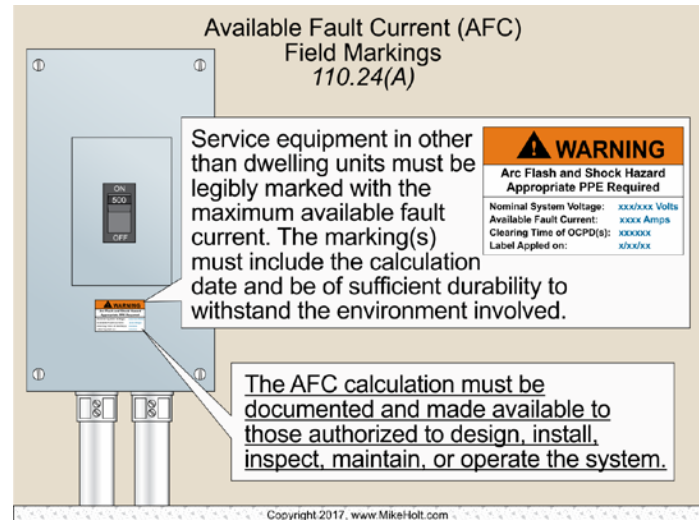

Figure 110–27
(A) Field Marking. Service equipment, in other than dwelling units, must be field marked with the maximum available fault current, the date the fault current calculation was performed, and be of sufficient durability to withstand the environment involved. The available fault current calculation for the service equipment label must be documented and be available to those who are authorized to design, install, inspect, maintain, or operate the system. Figure 110–27